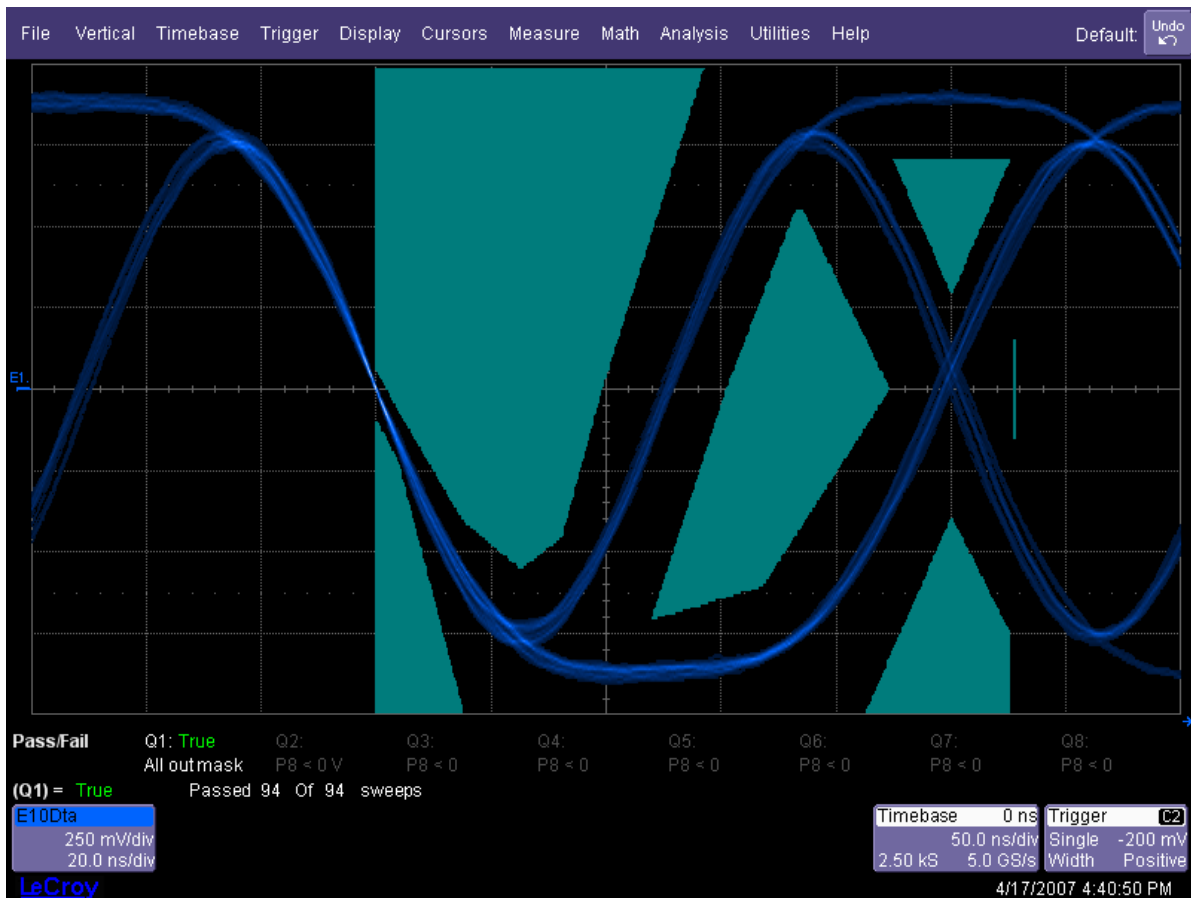

**Figure 14. Fixture setup for 10Base-T mask test**
2. Connect oscilloscope channel 2 to J84, channel 3 to J85 (Figure 14, previous).
9. Connect SMA cables from oscilloscope Channel 2 to fixture J84, Channel 3 to J85 (Figure 14).